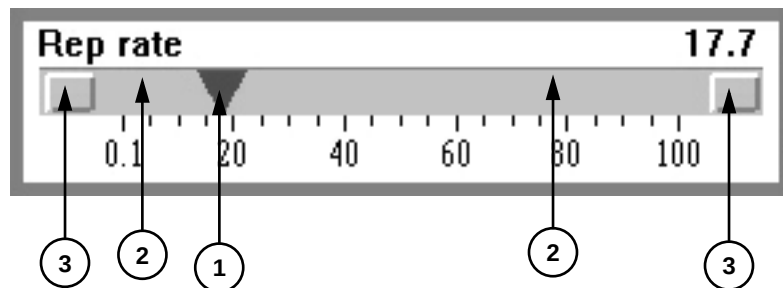

Figure 7-4. Active Areas in Infinity Slide Bar.
Most parameters in the Infinity windows are controlled through the use of slide bars such as the one shown in Figure 7-4. This particular panel is taken from the main control window and it is used to set the repetition rate. It can be done in three different ways. The numbers given below are only valid for this particular panel. In other panels the parameter value will change by different amounts when the same operation is carried out. The relationship between the magnitude of the changes is roughly the same.
1. Positioning the mouse cursor on the triangular indicator, item 1 in Figure 7-4, and depressing the mouse button allows the indicator to be dragged along the slide bar with a resolution of 1 Hz.
2. Positioning the mouse cursor on the area to the left or right of the indicator, item 2 in Figure 7-4, and clicking on the mouse button will increase or decrease the repetition rate by 10 Hz. If the repetition rate is set to a non-integer number it will change to the nearest even multiple of 10. Holding the mouse button down will move the repetition rate rapidly in steps of 10 Hz.
3. Positioning the cursor on the left or right box, item 3 in Figure 7-4, at the end of the scale and clicking on the mouse button will increase or decrease the repetition rate by 0.1 Hz. Holding the mouse button down will move the repetition rate rapidly in steps of 0.1 Hz.